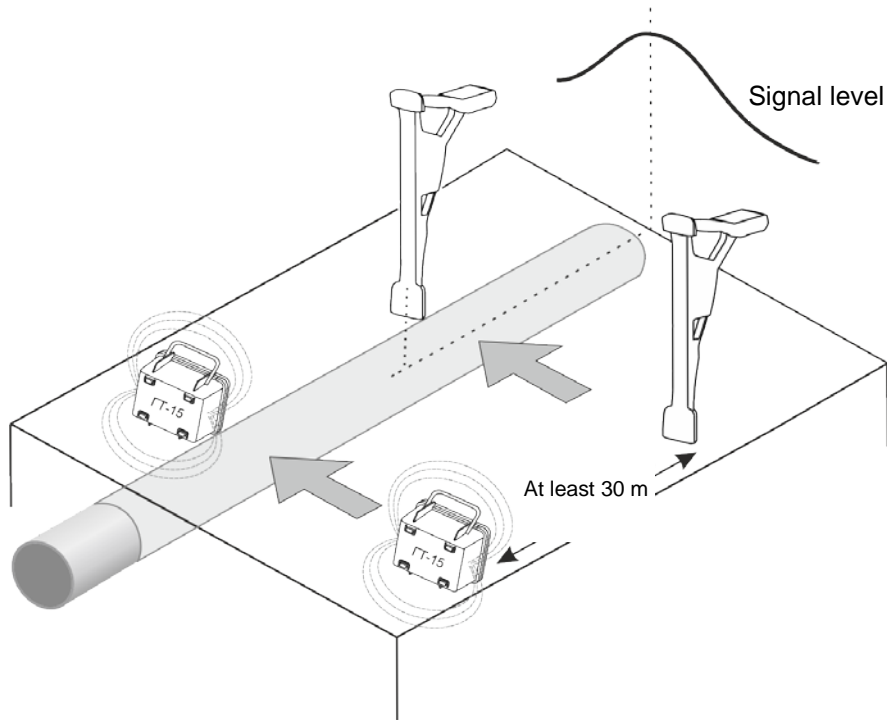

Figure 4.4.2.2 – Survey of territory plots with the use of GT-15
Then two operators should walk parallel in the same direction keeping the distance between them from 20 to 30 m. One operator should move along plot boundary holding transmitter bag so the axis of transmitting antenna was towards his direction. Another operator must move along the opposite plot boundary holding locator and record signal changes by bar graph (Figure 4.4.2.2.). The maximum signal will appear in spots where locator is directly above the target utility. Enable "Compass line" option in order to facilitate utility tracing when the input signal strength is high (item 4.2.3.).